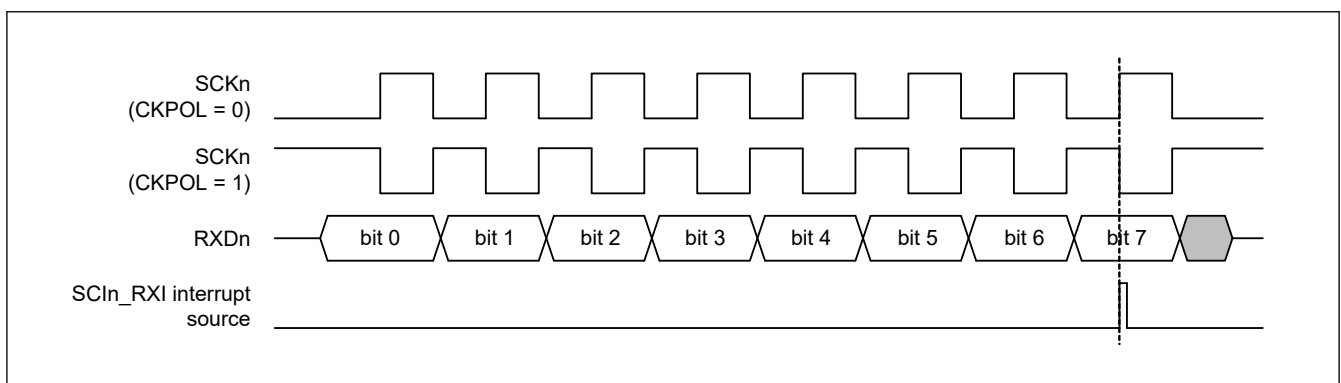

Figure 24.63 Timing of SCIn_RXI interrupt in simple SPI mode with clock delay
- For the clock delay setting (SPMR.CKPH bit is 1), the receive data full interrupt (SCIn_RXI) is generated before the final clock edge on the SCKn pin as indicated in Figure 24.63. If the TE and RE bits in the SCR register become 0 before the final edge of the clock signal on the SCKn pin, the SCKn pin is placed in the high-impedance state, so the width of the last clock pulse of the transfer clock is shortened. Additionally, an SCIn_RXI interrupt might lead to the input signal on the SSn pin of a connected slave going to the high level before the final edge of the clock signal on the SCKn pin, leading to incorrect operation of the slave.